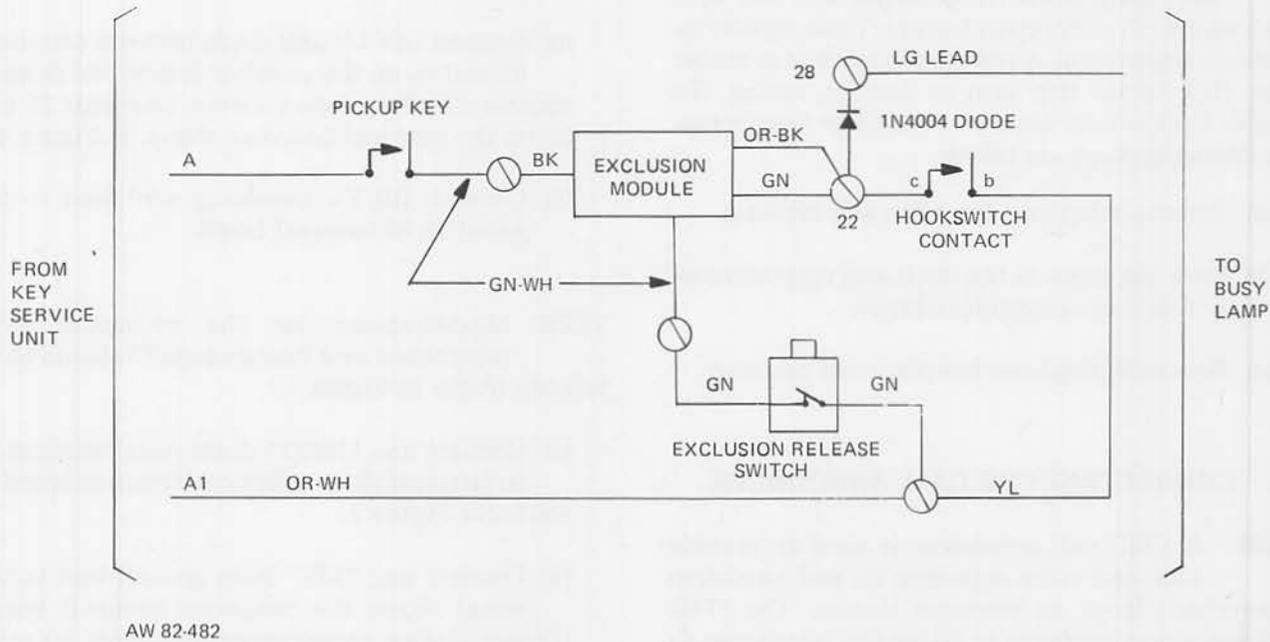

Figure 5: Busy Lamp Connections For 20-Button Telephones with Feature Code 76
**11.02** Modifications for the 20-button desk telephones with feature code 76 should be as follows: (Refer to Figure 5.)
- (a) Connect one 1N4004 diode from terminal 22 to terminal 28 on telephone terminal board as shown in Figure 5.